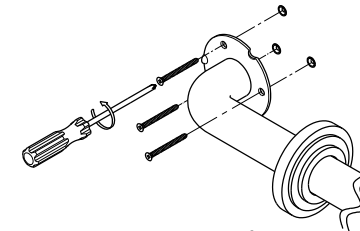

Fig. 6
- Step 5. Screw grab bar onto anchors. (Fig.6)